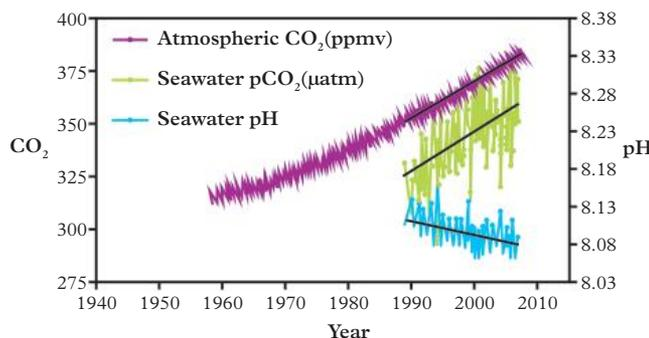

FIGURE 6 The impact of CO_2 levels off the coast of Hawaii
Figure 6 shows a graph of CO_2 levels off the coast of Hawaii and the effect on the pH of seawater.
- 1 Identify the relationship between the measured levels of CO_2 in the atmosphere over time. Use evidence from Figure 6 to support your answer.
- 2 Identify the relationship between the measured levels of CO_2 in seawater over time. Use evidence from Figure 6 to support your answer.
- 3 Using your answers from Questions 1 and 2, identify the relationship between the measured levels of CO_2 in the atmosphere and seawater and the pH of seawater. Use evidence from Figure 6 to support your answer.